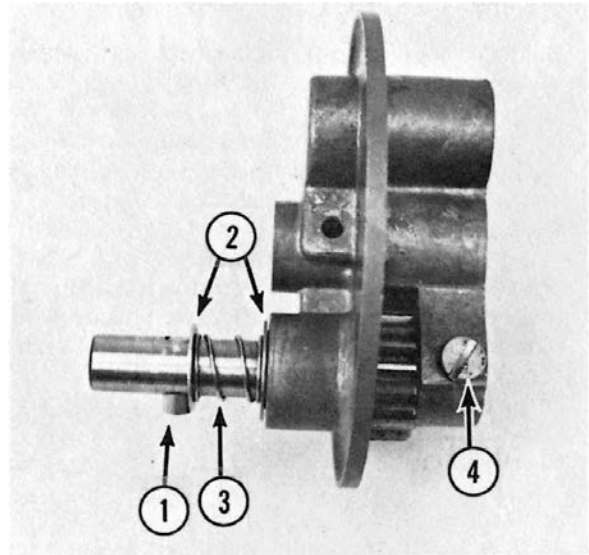

Fig. 2-3
- B. Remove the Groov-Pin (1, Fig. 2-3).
- C. Remove two washers (2, Fig. 2-3) and spring (3, Fig. 2-3).
- D. Remove the bearing retaining screw (4, Fig. 2-3).